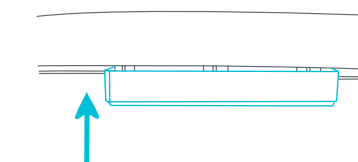

Fig. 15b
- **REATTACH:** Push the stopper into the housing completely (Fig. 15b). Ensure to apply enough pressure when inserting the stoppers.